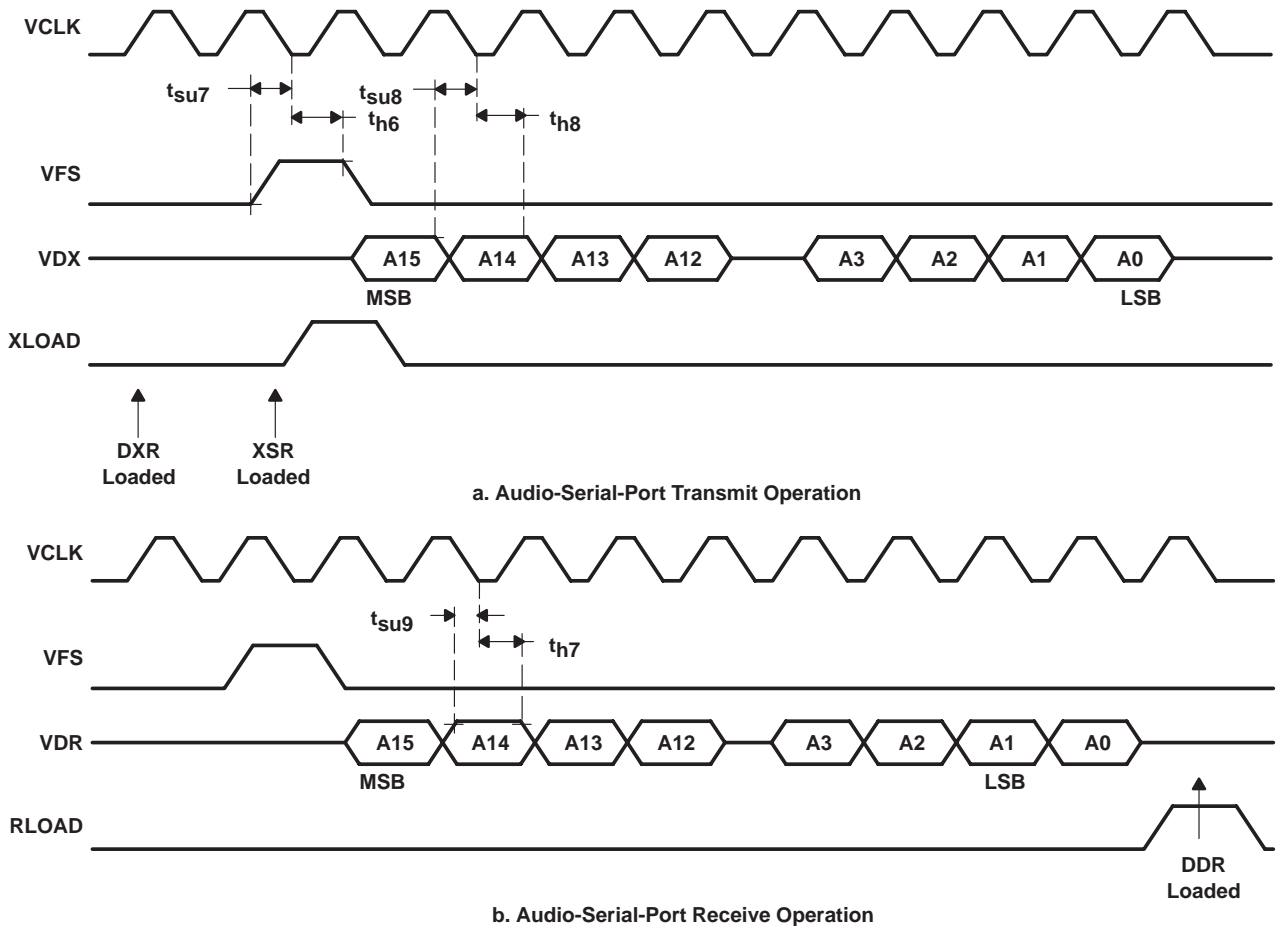

Figure 5. Voiceband Serial Interface Timing Waveforms
**voice timing requirements (see Figure 5)**
Figure 5 shows the timing diagram for both transmit and receive voiceband serial interface operation.
The signal VCLK is the output serial clock used to control the transmission or reception of the data (see Figure 5). The transmitted serial data (VDX) is the serial data output; the frame synchronization (VFS) is used to initiate the transfer of transmit and receive data. The received data (VDR) is the serial data input.